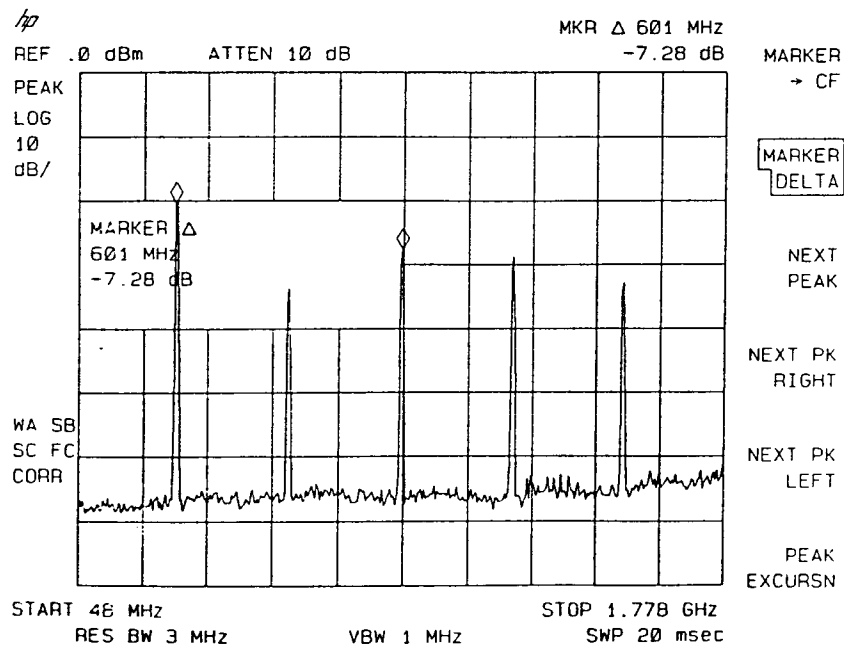

Figure 2-14. Using the Delta Meas Function
5. The **DELTA MEAS** softkey also finds and displays the frequency and amplitude difference between the two highest-amplitude signals. To use this automatic function, first remove the local oscillator (LO) signal from the display by pressing **FREQUENCY**, **START FREQ**, and turning the knob until the LO signal at 0 Hz is off the screen. Press **MEAS/USER**, **MORE 1 of 2**, **DELTA MEAS**. See Figure 2-14.